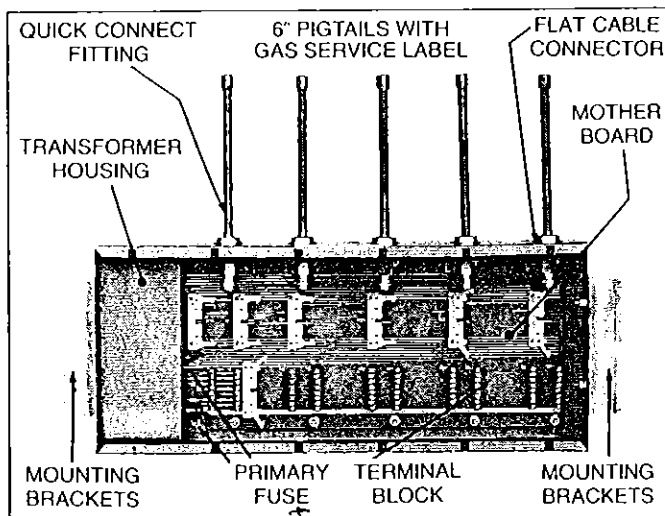

FIG. 1 — BACK BOX WITH PIGTAILS
1. The Back box (See Fig. 1) contains the electronic "mother board," step-down transformers for the internal low voltage control circuitry, and all necessary connectors to accept the various modules described below.
- a. One contains (See Fig. 1) copper pigtailed to which an installer directly connects gas or vacuum.